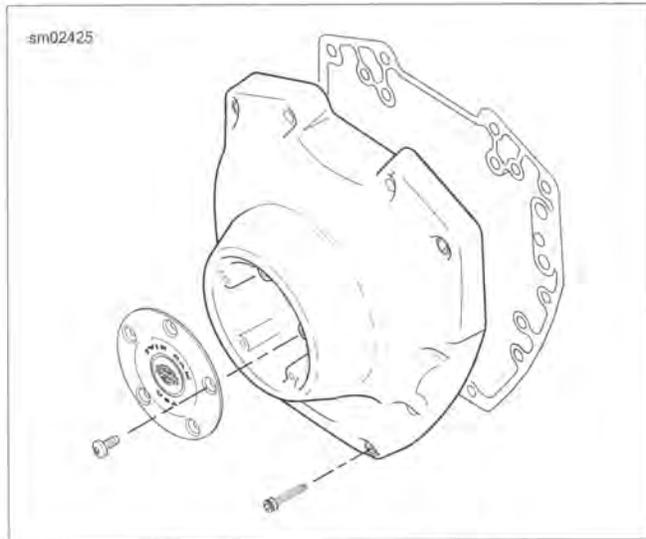

Figure 3-112. Cam Cover Gasket
16. See Figure 3-112. Install cam cover and **new** cam cover gasket.